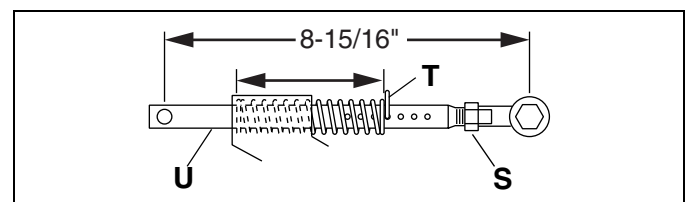

Figure 3P
1. Place each cutting unit in front of its respective lift arm. Raise lift arm and position cutting unit so that yoke (R) is in line with swivel housing (Q). Carefully lower arm onto yoke. Insert pin (K) through hole in yoke, fasten retaining clip (L) and install cap (M).
2. Assemble motors (N), with hoses attached, to the cutting units. Clean motor splines and coupling. Apply Moly 2 EP grease to the female spline on reel. Thoroughly clean the motor mounting surface. Slide motor into bearing housing. Lock motor in place by inserting two motor clips (O), with loops facing center of motor, into mounting pins (P).
3. Raise reels and install down pressure spring pins (T, Figure 3P). If cutting height has not changed, set pins in same position they were in when reels were removed.
1. Lower reels to the ground and remove down pressure spring pins (T, Figure 3P). Make note of where springs are set.
2. Remove motor clips (O). Pull motor straight out from cutting unit.
4. Remove cap (M) on lift arm. Unfasten retaining clip (L) from pin (K) and remove pin.